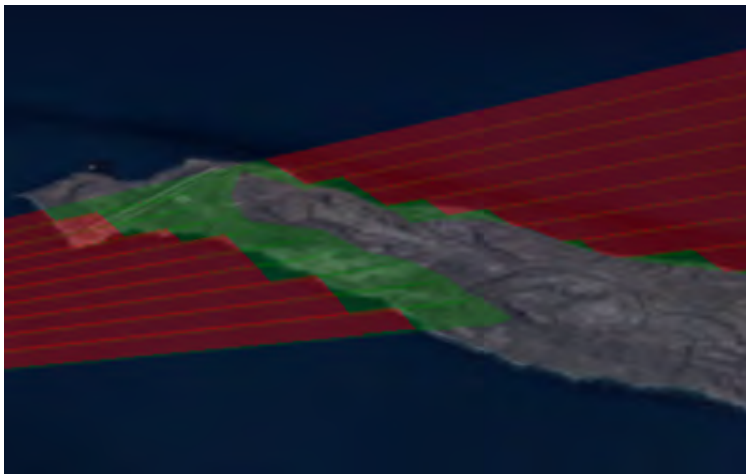

Figure 5.81: Loss with Elevation Data
13. When you have elevation data, in this example ReadyMap SRTM was used, the propagation loss is evident by the presence of land, shown in Figure 5.81. The propagation display will reflect the loss-of-propagation based on the **Thickness** parameter with elevation data.